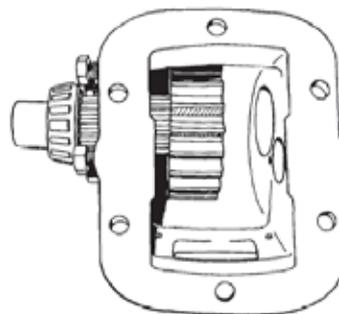

Figure 6 Installing Drive Shaft and Gear
- h. Feed the drive shaft into the housing and through the drive gear (Figure 6).